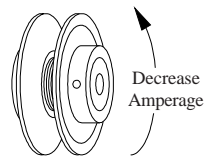

Fig. 9
- Adjust pulley if necessary.** If amperage draw is less than motor rating, turn off electrical power and remove pad frame. Unplug motor inside cooler, this will protect you from someone turning on unit while you are working inside. This should be done for your safety. Adjust pulley to a larger diameter and readjust belt tension, plug motor in, install pad frame, and retest amperage draw. Repeat this process until correct amperage draw is attained. Increasing motor pulley diameter increases amperage draw. Decreasing motor pulley diameter decreases amperage draw (see Fig. 9).